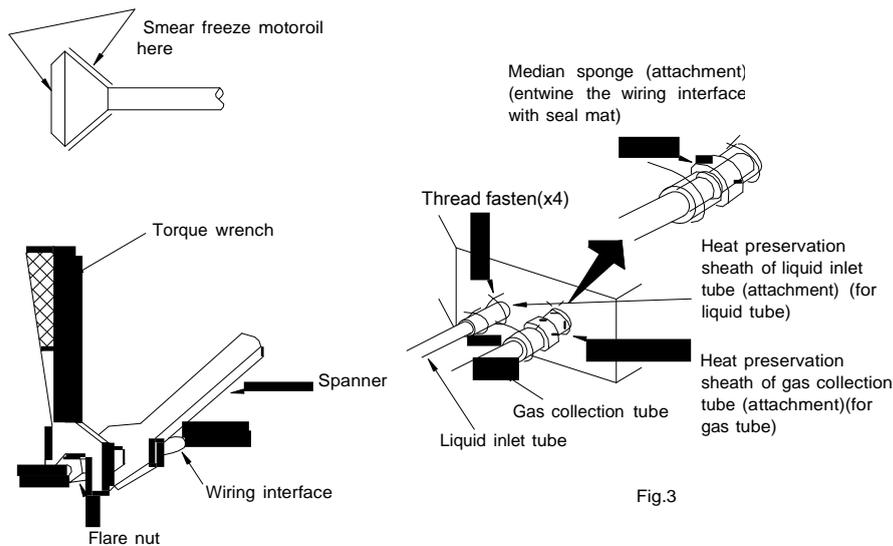

Fig.3
- ☆ When connect the pipe to the unit or back out it from the unit, please do use both spanner and torque wrench. as shown in fig.3.
- ☆ Examine the connection pipe to see if it had gas leakage, then take the treatment of heat insulation, as shown in the fig.3.